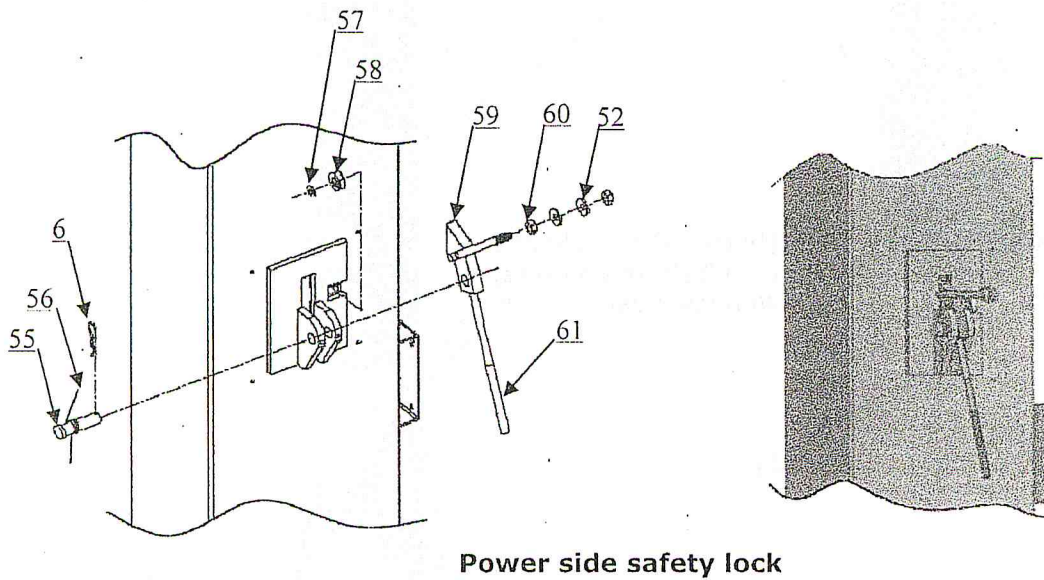

Fig. 16
G. Install safety locks (See Fig. 16&17). (Normal installed)